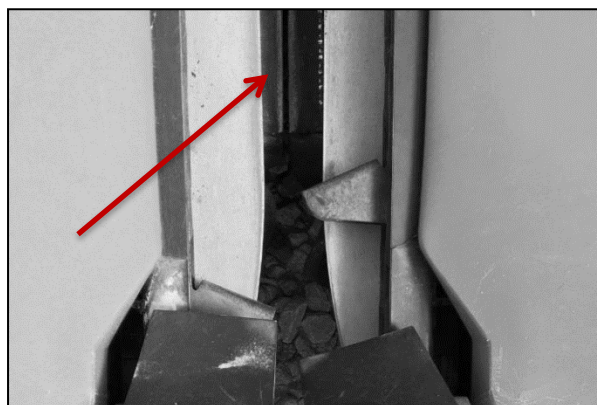

Figure 21: Checking minimum snapping roll knife clearance.
- 13.9. Check minimum snapping roll knife clearance (Figure 21)